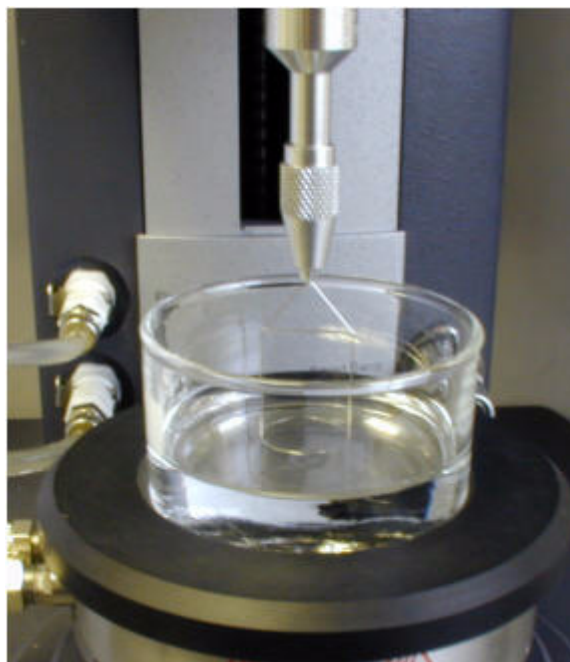

Figure 1.3
2. Attach the geometry holder to the draw rod, then insert the Du Noüy ring into the holder, ensuring that it is fully seated in the centering hole. Turn the collet to secure. This is best done if the rheometer spindle is locked by pressing the button on the front panel, or you may find it easier to install the ring into the holder before attaching the holder to the draw rod. Tighten the collet finger tight, do not overtighten. (See Figure 1.3 on the next page).
4. Ensure that the ring is fully wetted by bringing it completely through the surface the approach the surface from below (See Figure 1.3)